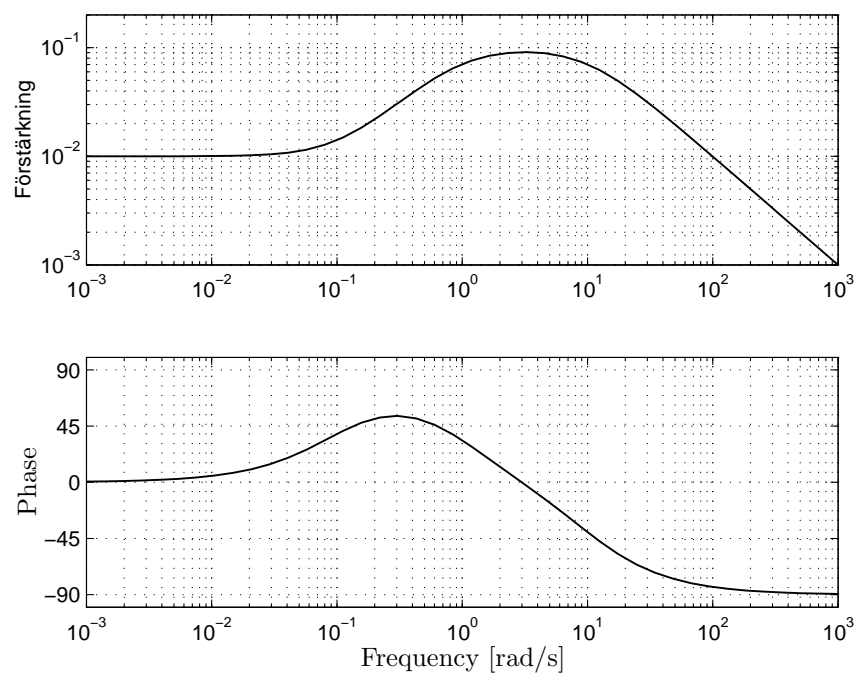

Figure 3.1 The Bode plot in assignment 3.6.
- b. The Bode plot of the system is shown in figure 3.1. Determine the output $y(t)$ by using the Bode plot instead.